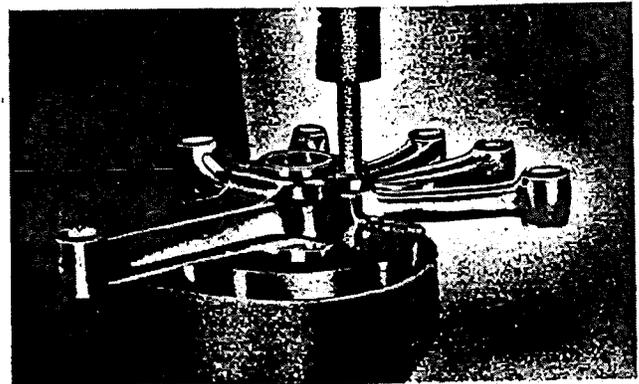

Figure 19 - Removing Knuckle Pin
(1) To remove knuckle pins and link rods, first remove cotter pin and knuckle pin bolt and then remove nut, bolt and knuckle pin washers.
(2) Before attempting to press out knuckle pins, place master rod on Base (Tool No. T-367) so that the small drilled oil holes inside the master rod bearing are down and the bearing lock plate is uppermost.
(3) The oil groove end of the knuckle pins will then be down and will be the part of the pin pressed out first.
(4) Before pressing out each knuckle pin, place Wedge (Tool No. T-367-1) between master rod flanges near the knuckle pin to be removed. Use of the Wedge will prevent excess distortion of the master rod. Refer to Figure 19.
(5) Place Drift (Tool No. T-27000-B) in knuckle pin and press out, taking care to prevent its being damaged by falling.